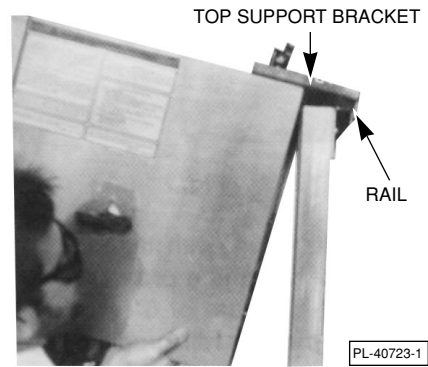

Fig. 6
4. Carefully lift the cheesemelter so brackets fit over the rail (beam support) on top of the backsplash and so the bottom of the cheesemelter is supported by the two bottom support brackets (Fig. 6).